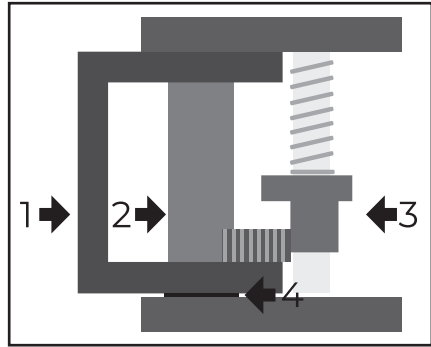

Fig. 23
1. Remove spring washer (4, Fig. 23) from pin and then pin (2, Fig. 23) from arm (1, Fig. 23).
2. Lubricate pin, locking teeth and lifting body gears (3, Fig. 23) with EP40 multi-grease.
4. Remove spring washer (4, Fig. 23) with spring washer pliers, install rubber pad. Replace the spring washer (4, Fig. 23) when the lift bridge is in the raised position.